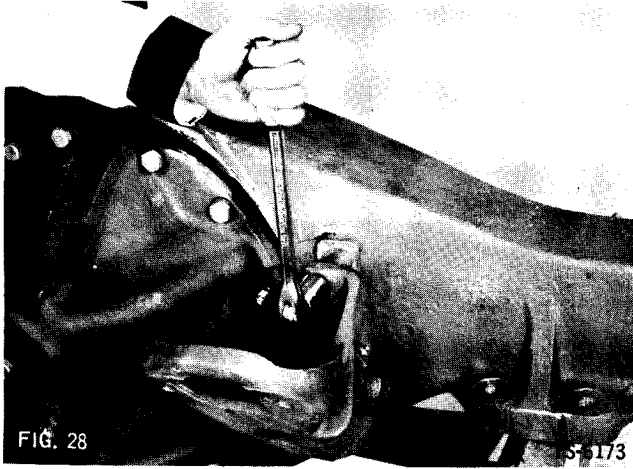

FIG. 28
28. Remove two bolts and lock washers that secure air chamber bracket to axle housing; remove bracket and spacers (Fig. 28).